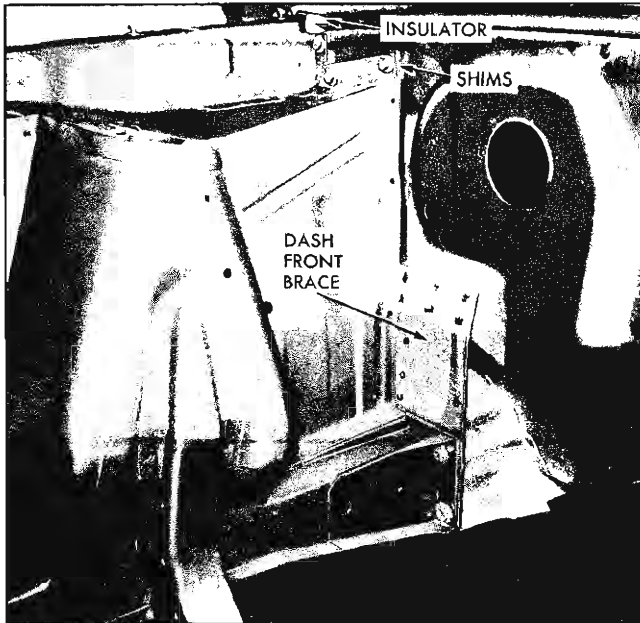

Fig. 36—Skirt Mounting Bolts
11. Remove four bolts retaining skirt assembly to dash front brace. Remove 3 bolts retaining upper end of skirt to dash (fig. 36); record shims removed.
1. Position skirt assembly on vehicle with insulator, shown in Figure 36, in place and original shims installed at top dash mount.